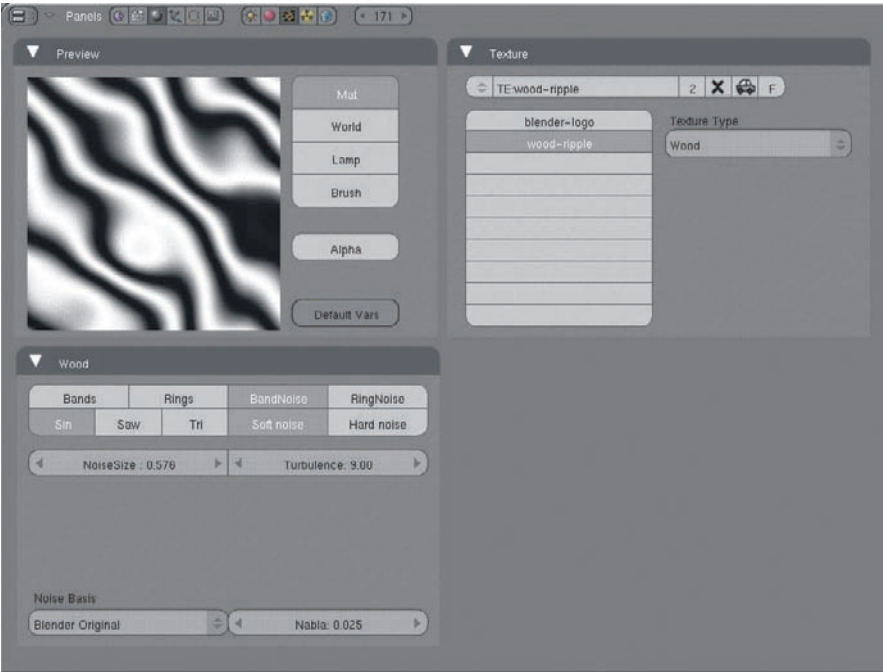

Figure 1.65 The ripple texture
4. Create the texture that will be used to displace the ripples in the flag. Select channel 2 (the next channel down, below the channel with blender-logo) and click Add New. Name the texture **wood-ripple**. This texture will not be used directly on the material, but will be used to control a Displace modifier, so make it inactive on the material by deselecting the channel as shown in Figure 1.64. For the ripple pattern, select a Wood texture type and set the values shown in Figure 1.65.